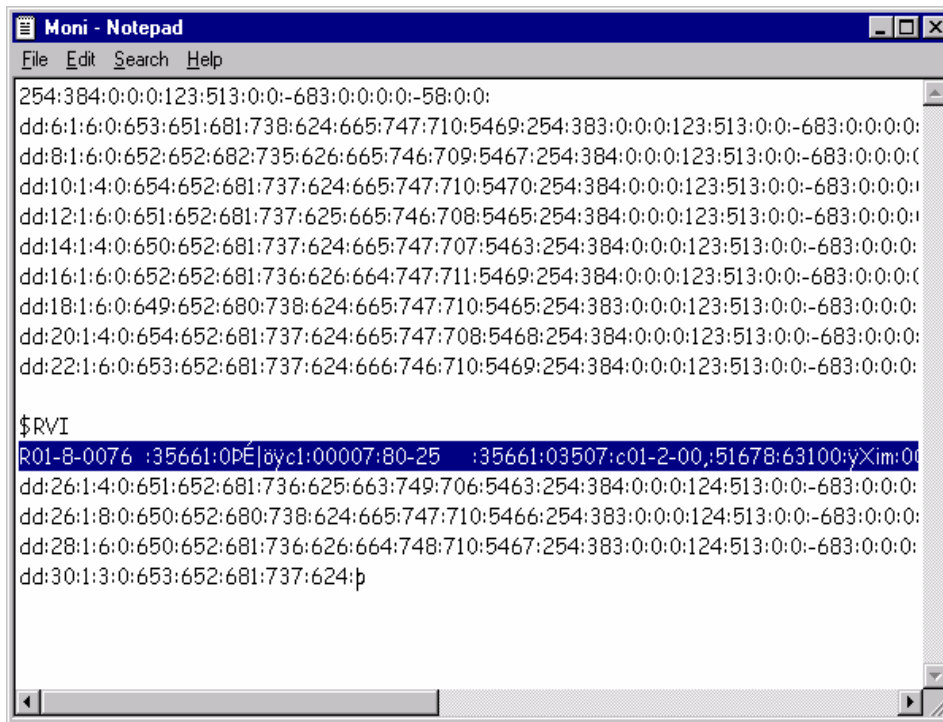

Fig 5 Vehicle Information Data
- Type **\$RVI** or **\$rvi** command. After downloading the vehicle information data, the text file looks like as shown in Fig 5.